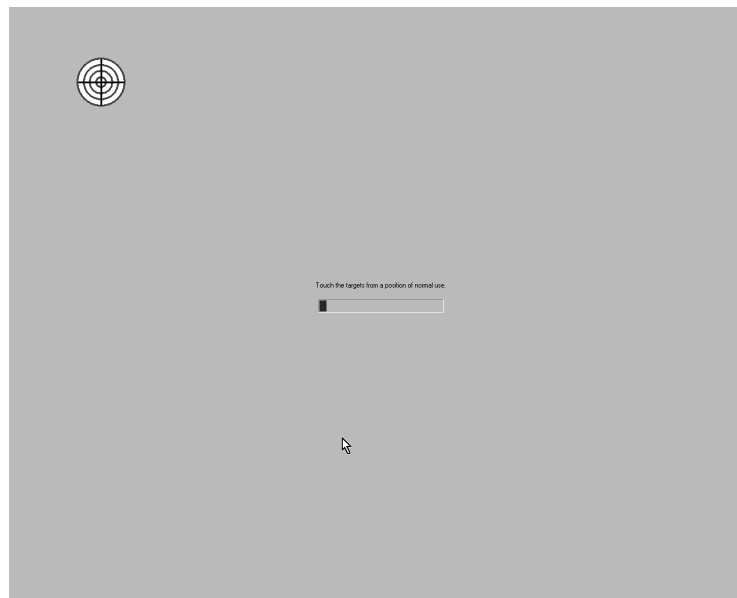

FIGURE 9-3 Recalibration Screen (Part I)
3. Select the **Recalibrate Touch Screen** button. The recalibration process is initiated (shown in FIGURE 9-3).